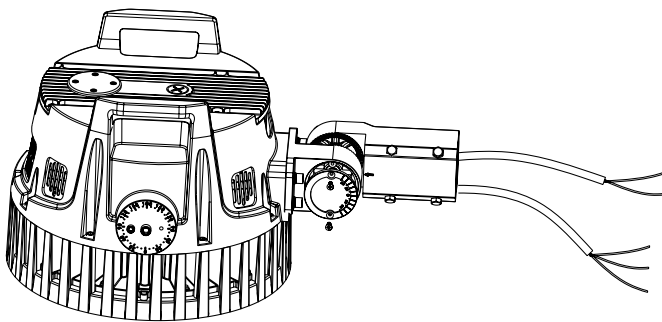

Figure 3
- Remove the bracket mounting screws on the fixture and run the wires through the bracket (Figure 3).